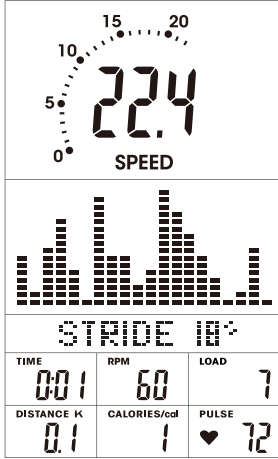
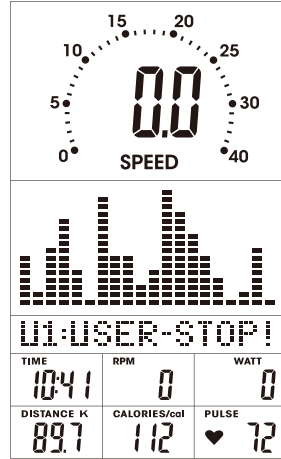

FIGURE 25
FIGURE 26
1. After entering in to USER PROGRAM mode, the first column of the profile will blink (FIGURE 25). User may turn the joggle wheel to adjust the resistance level for that column (FIGURE 26). To create his / her own profile, press enter and repeat to adjust the next column.